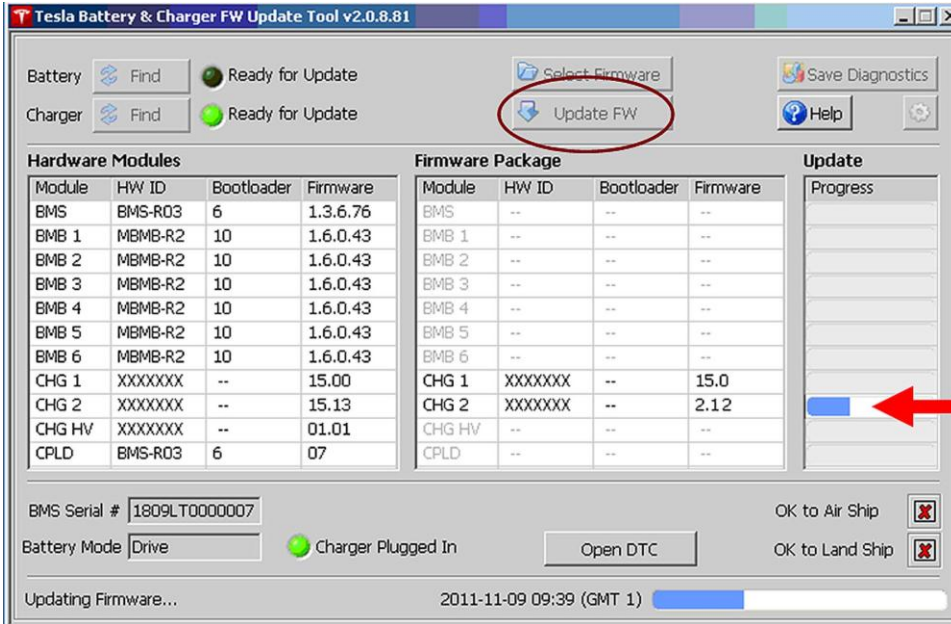

Figure 11
2.5. Select "Update FW" (circled, Figure 11)